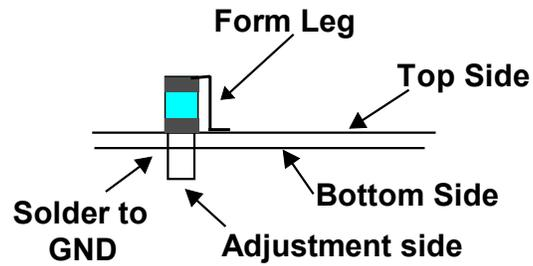

Figure 4. C2 Installation details.
- Install C2 from the Top side of the circuit board. See Figure 4. The adjustment of C2 is made on the bottom side of the board. Solder C2 on the bottom side of the circuit board. After forming the lead as shown.